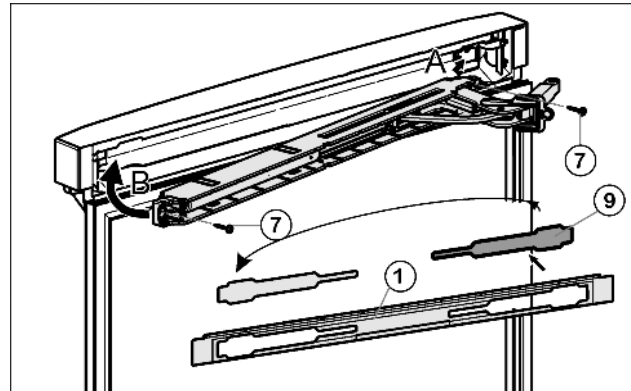

Fig. 23
- ▶ Loosen cover Fig. 23 (9) from the panel Fig. 23 (1) and insert on the other side.
- ▶ With the hinge of the upper soft stop unit facing the door hinge side, engage the soft stop unit (A) and swivel inwards (B).
- ▶ Tighten soft stop unit (2 x Torx 15) Fig. 23 (7).